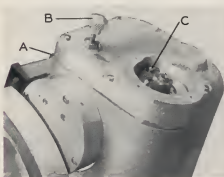

Fig. 10—Low slugger head, top view.
Whenever it is desired to throw the low-slagger cutter out of operation, the button (B, Fig. 10) on the top of the low-slagger head should be pulled up. This holds the actuator arm up, preventing the pawl from engaging in the ratchet to pull the cutter down into cutting position.
and tighten gently. Reassemble parts. Remove four screws holding round cover plate on top of housing and turn the depth adjusting screw (C) Fig. 10 counter-clockwise $1\frac{1}{2}$ turns. Place in operation and adjust for proper depth of cut. Never turn adjusting screw while machine is in operation, unless the low slugger on-off button (B) Fig. 10 is pulled up. Otherwise there is danger of running the cutter into the cutter guard.